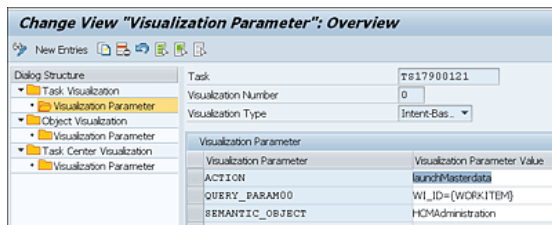

Figure 11.17 Visualization Parameters: Intent-Based Navigation
6. As shown in Figure 11.17, you have to maintain the required values in the visualization parameters for intent-based navigation. These values are listed in Table 11.6.